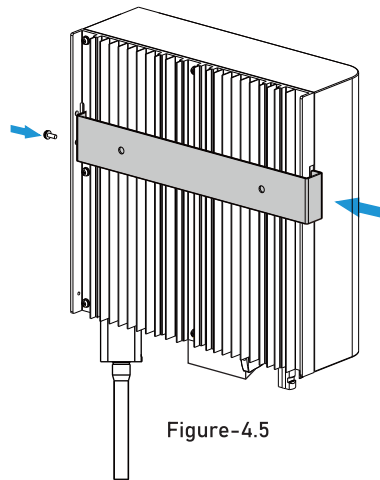

Figure-4.5
- Hang the inverter to the top of the mounting bracket and then use the M4 screw in the accessory to lock the inverter heat sink to the mounting bracket, to ensure that the inverter will not move (as shown in figure-4.5).